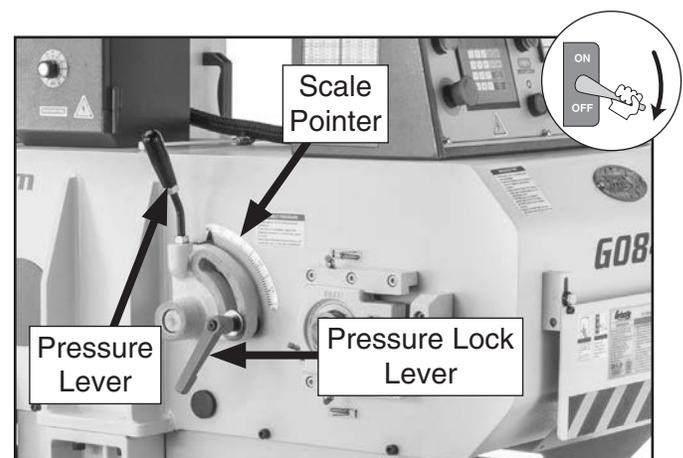

Figure 48. Location of feed track pressure adjustment components.
2. Loosen pressure lock lever (see **Figure 48**) and pull down on pressure lever (see **Figure 48**) until scale pointer indicates "0.5mm" While holding pressure lever in position, tighten pressure lock lever.